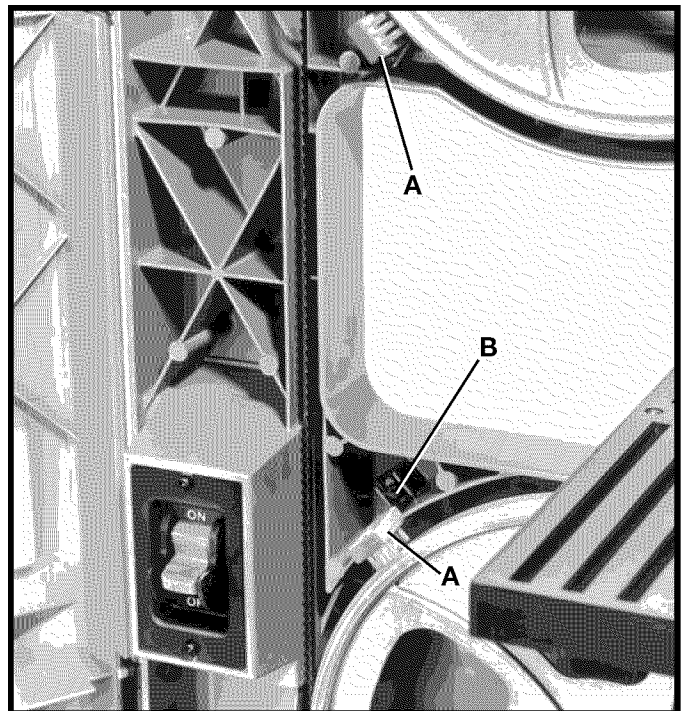

Fig. 36
1. Two wheel brushes (A) Fig. 36, are provided on the machine to keep the tires free of any build-up of wood chips. Adjustments can be made by loosening screws, one of which is shown at (B) (which secure the brushes to the machine) and adjusting brushes accordingly. Then tighten screws (B).